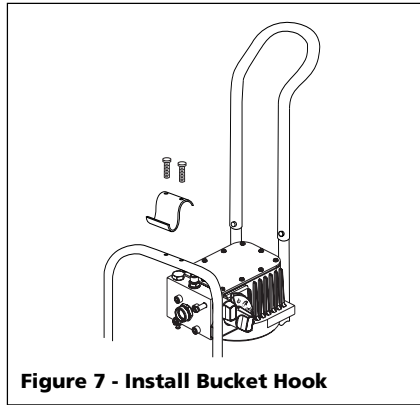

Figure 7 - Install Bucket Hook
10. Line up the two holes in the bucket hook with the two holes in the top of the frame (See Figure 7).